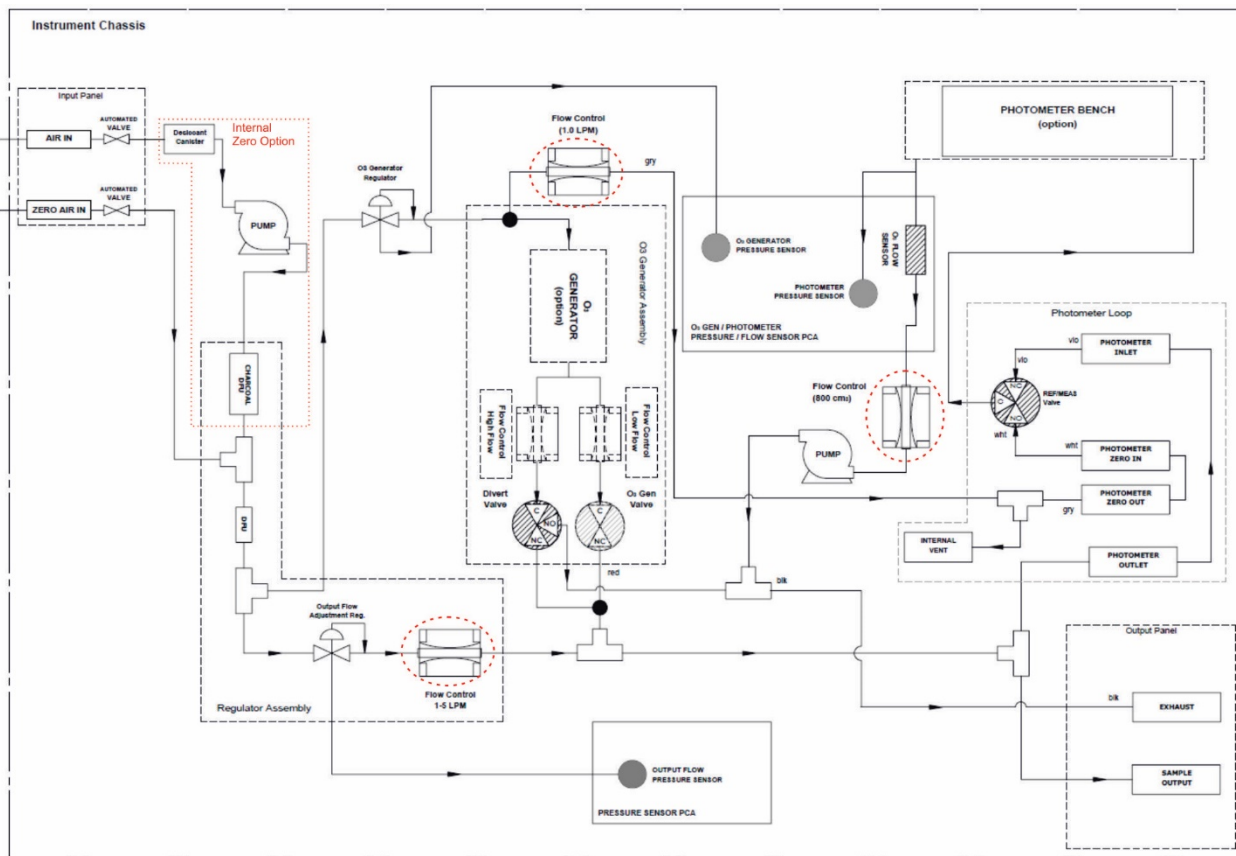

Figure 9-1: Location of Gas Flow Control Assemblies
2. Locate the assembly to be repaired, see Figure 9-1 (T753U).
Gas flow rates are set by various flow control assemblies in the gas stream(s), locations indicated in Figure 9-1.